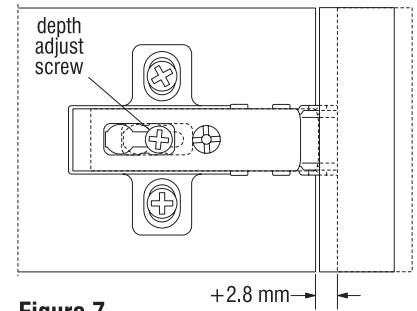

Figure 7
2. For **door depth adjustment**, first loosen the depth adjust screw, then slide the key hole of the hinge to the desired location. Re-tighten the screw (Figure 7).
4. To **disassemble door** from cabinet, loosen the depth adjust screw and slide the keyhole of the hinge over until the screw head can pass through and the door can be removed (Figure 7).